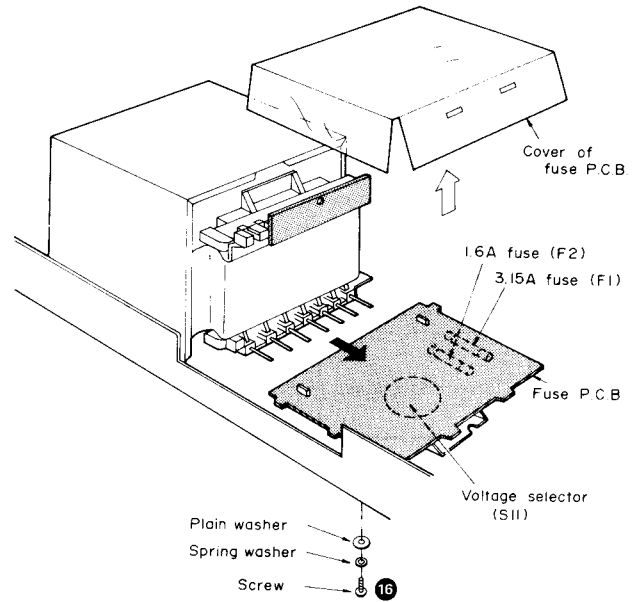

Fig. 8
4. Remove the fuse printed circuit board as in Fig. 8.